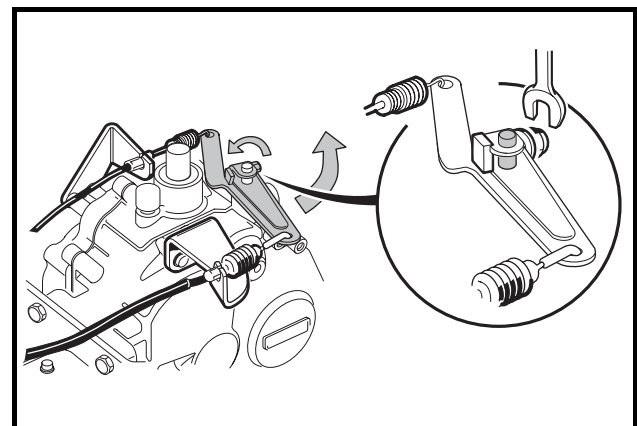

Figure 16-37 Governor Arm
8. Install governor lever arm on governor shaft (Figure 16-37, Page 16-14).
- 8.1. With the governor lever arm loose on the governor shaft, turn the governor arm shaft counterclockwise until it stops. Then pull the governor lever arm rearward until the carburetor throttle is in the "wide open throttle" (WOT) position (Figure 16-37, Page 16-14).
- 8.2. While holding the arm and shaft in the fully counterclockwise position, tighten the governor arm lever nut to 35 in-lb (4.0 N·m) (Figure 16-37, Page 16-14).